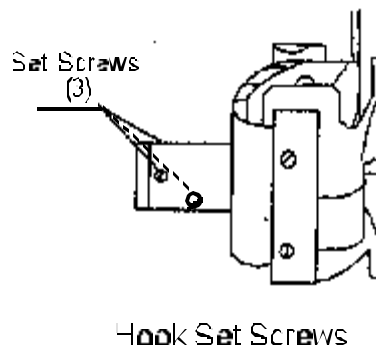

Figure 5
37. **Using** a needle screwdriver, **loosen** two set screws **furthest** from hook point leaving the set screw closest to hook point tight. (If Hook Assembly was removed as instructed in Section B, two set screws are loose already) See Figure 5.